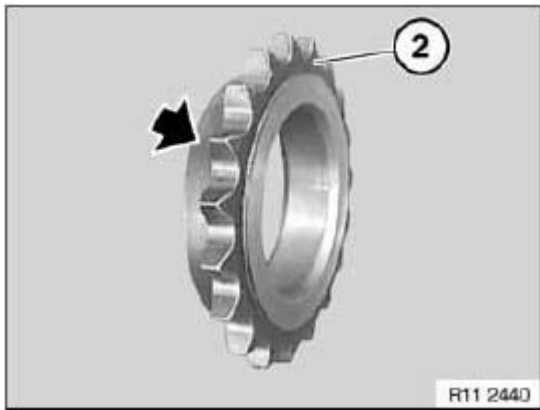

Fig. 194: Identifying Collar On Sprocket Wheel
Collar (see arrow in **Fig. 194**) on sprocket wheel (2) points to crankshaft.